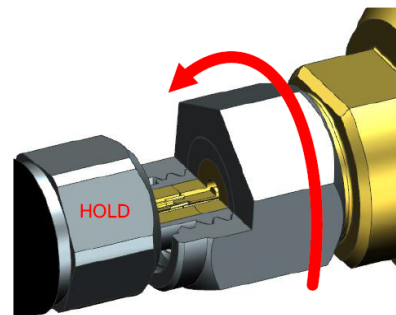

Figure 10. Finger tight connection, turning the nut only [1]
2. **turn only** the outer connector nut (see Fig. 10).